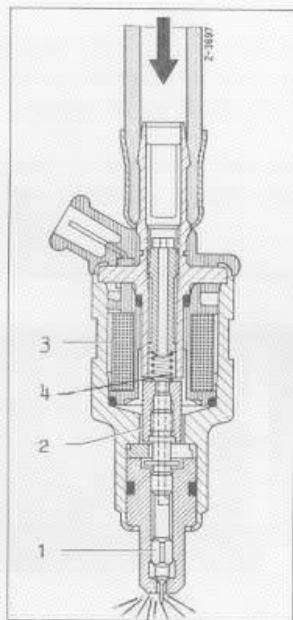

FIG. 20
7. The ELECTRIC INJECTION VALVES (Fig. 20) work identical to an electromagnetic solenoid. Under current, a magnetic field is produced by the coil (item 3) and the armature (item 2) is pulled against the closing spring (item 4), thus opening the nozzle needle (item 1).